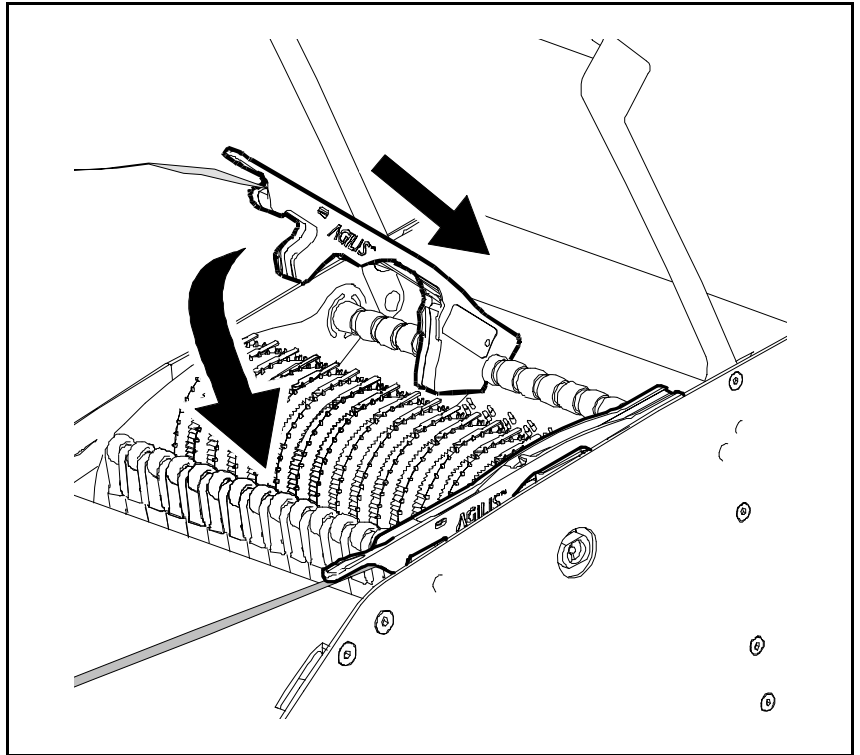

Figure 4-5. Installing feeder into the magazine
5. Push the feeder down until it locks in position (see Figure 4-5).